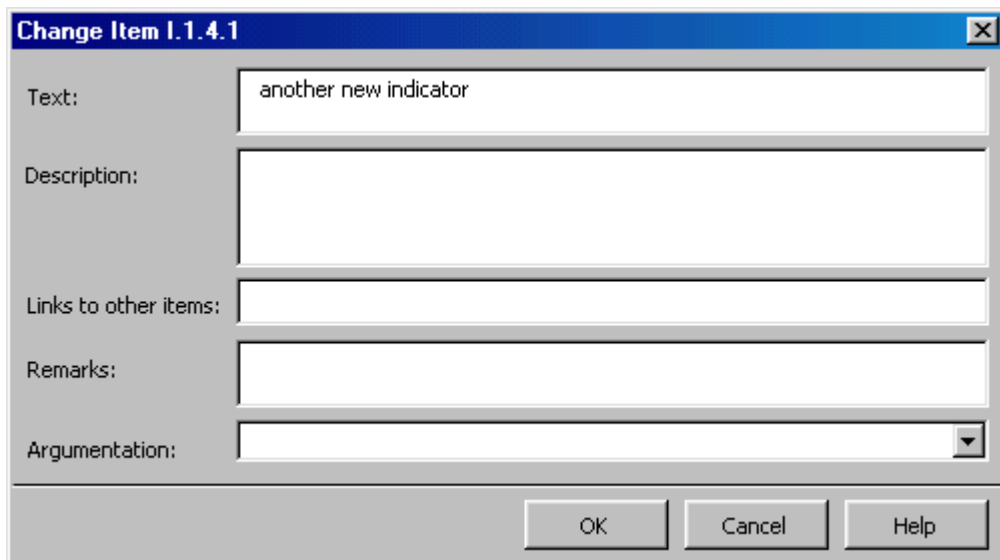

Figure 12. Changing the item properties dialog box
- Change the item's text and its description in the dialog box. Give the argumentation for why the item's text needs to be changed (see Figure 12).